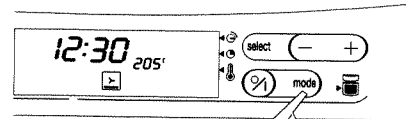

Fig. 5
2. Press the “mode” touch control and keep pressing until the type of cooking selected appears. (For example “bottom element + fan”) (fig. 5).